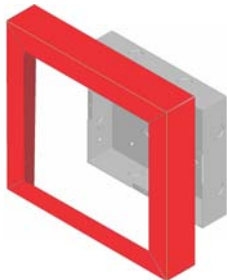

Figure 6: Installing Trim Ring
4. The Model RA-100TR red trim ring kit is available for use when surface mounting. Place the trim ring over the backbox as shown in Figure 6.